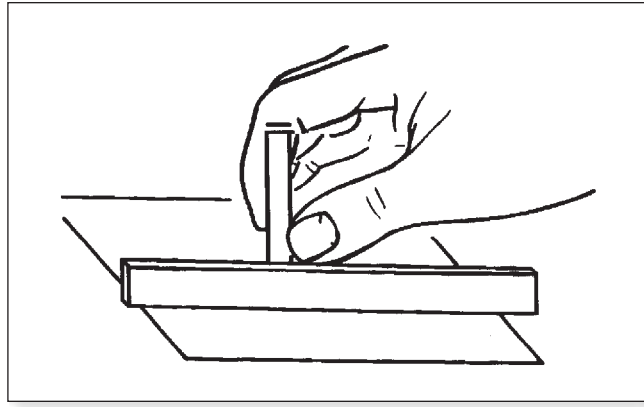

Figure 12
- b. Sanding the end of the apex seal with #400 to #600 emery paper is also an alternative way to remove excess material. However, it is very difficult to ensure the edge will remain square using this method. If you do not have access to a surface grinder, use a guide (see Figure 12). Be careful not to remove too much material from the apex seal.